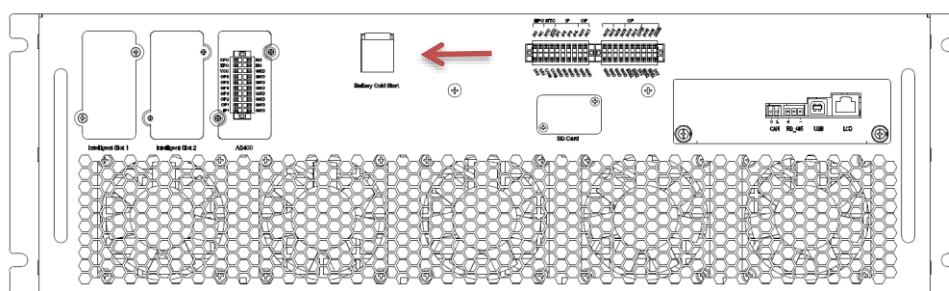

Figure 5-1 The position of the battery cold start button on cabinet
2. Press the red battery cold start button for more than 7 seconds, the system is then powered by the battery. See Figure 5-1.